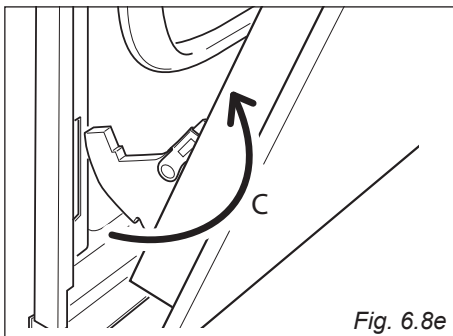

Fig. 6.8e
- Withdraw the hinge hooks from their location following arrow "C" (fig. 6.8e).